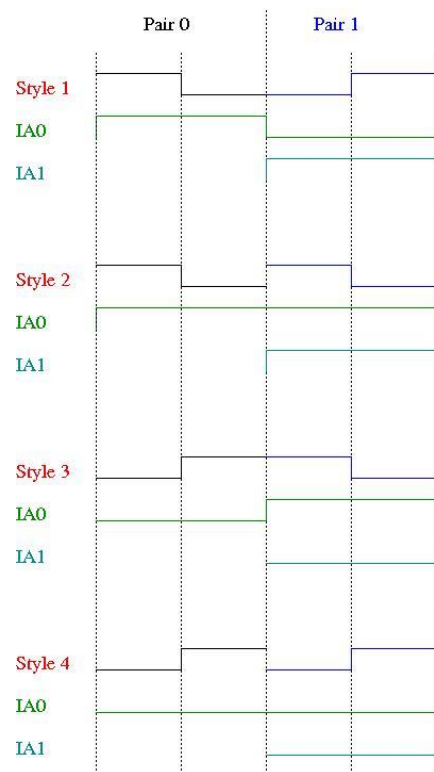
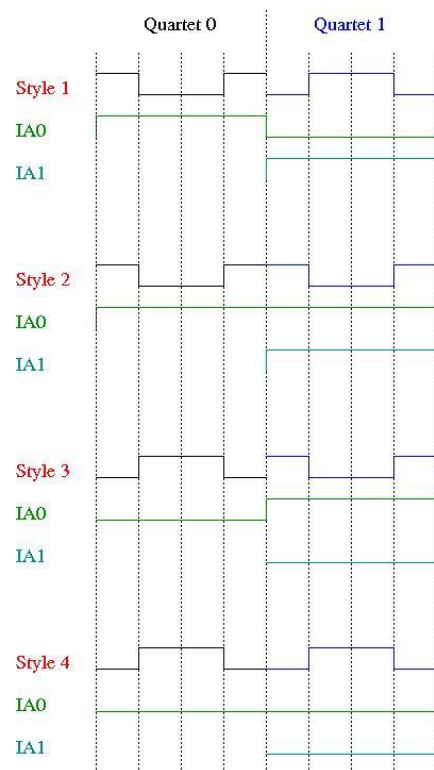

Figure 27: IA control signal IA0 and IA1 with the Pair pattern in relation to the Helicity Flip signal.
Figure 28: IA control signal IA0 and IA1 with the Quartet pattern in relation to the Helicity Flip signal.
To be able to do charge feedback with Intensity Attenuator (IA) and cancel the electro-optical hysteresis of the Pockels Cell, the Helicity Board has two output signals identifying the current and the previous patterns. Figure 27 shows the IA0 and IA1 signals when the Pair pattern is selected. Figure 28 shows the same when the Quartet pattern is selected. Similarly for the Octet pattern.